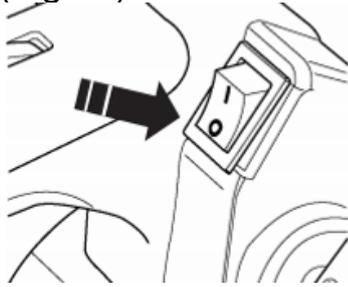

Fig.28
- 1) Release the throttle trigger and let the chain saw run in idle for a while. (Fig.28).